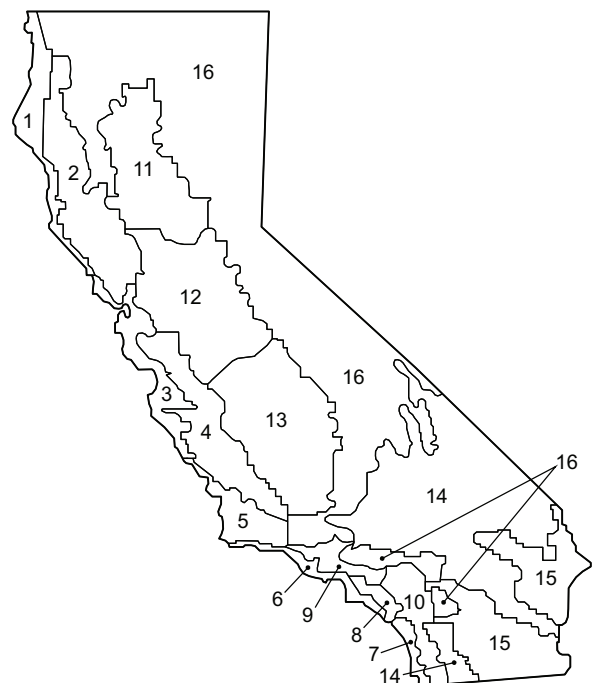

Fig. 79 – California Title 24 Zones
b. Refer to Fig. 79 for map of California Title 24 zones.